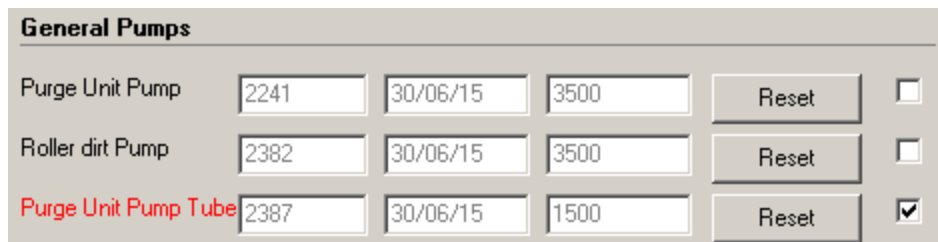

Figure 4-109 Pump Maintenance Counters
21. Open the *Maintenance Counters* screen, scroll down to the *General Pumps* section, and click **Reset** for the relevant counter(s) (see Figure 4-109 on page 4-76).